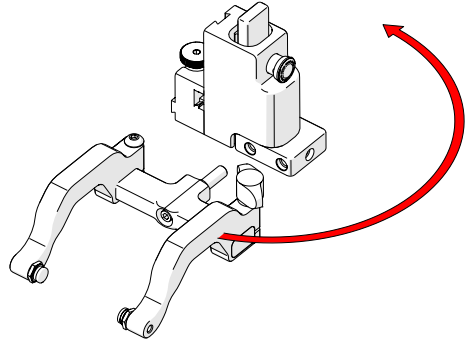

Fig. 55 - Orient to opposite side
2. Position the yoke and arms on the opposite side of the probe holder (Fig. 55).